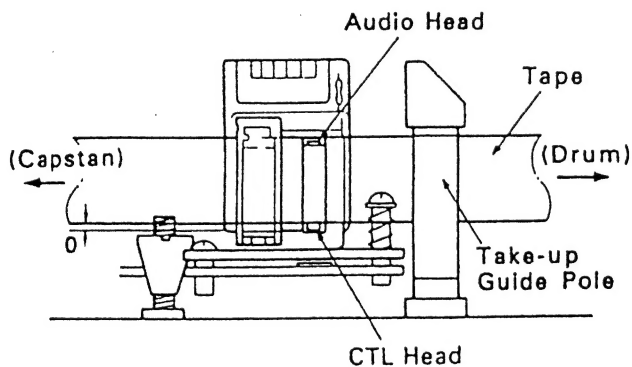

Fig.25 CTL Head phase adjustment
- h) Tighten adjustment nut and slide the Audio/CTL Head assembly slowly in the direction of the arrow as shown in Fig.25.